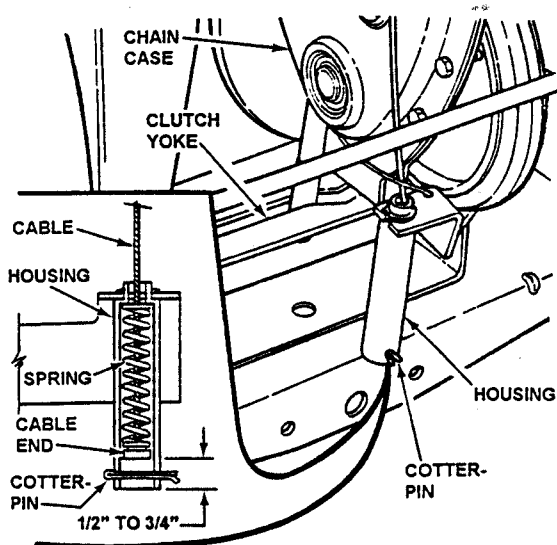

FIGURE 4.17
3. Measure the distance between end of clutch/brake cable and top of cotter pin. Measurement should be no less than 1/2" and no greater than 3/4". See inset on Figure 4.17.
5. Adjust cable up or down using the jam nuts to obtain a distance of 1/2 to 3/4" between end of clutch/brake cable (adjustment shown in inset, Figure 4.17) and end of housing.